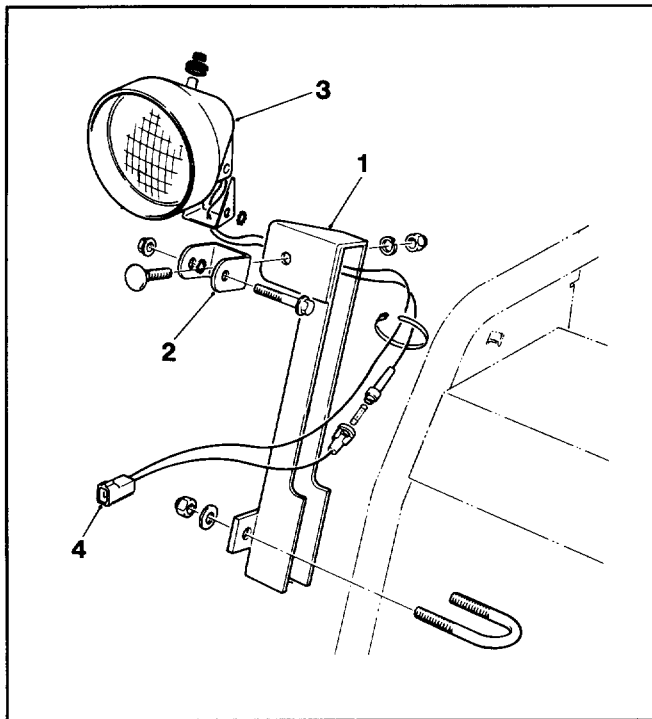

Figure 1
INSTALL LAMP ASSEMBLY (Fig. 1)
2. Using U-bolt, washers and nuts supplied in kit, loosely secure lamp mount to handle as shown in fig.1.